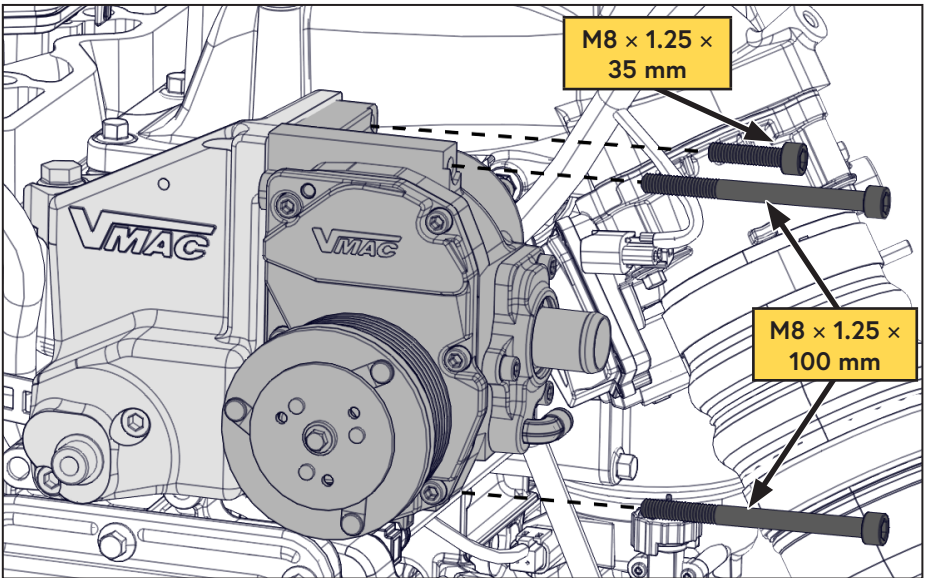

Figure 12 — Mounting the compressor
- Secure the compressor using the M8 × 1.25 × 35 mm and the (2×) M8 × 1.25 × 100 mm bolts and torque to specification (Figure 12).